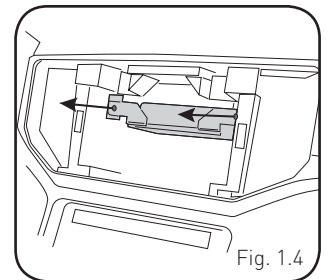

Fig. 1.4
- To make room for the aftermarket radio you must relocate the telematics module. Remove the two (2) T25 Torx screws securing the telematics module bracket. Remove from dash. (Fig. 1.4)